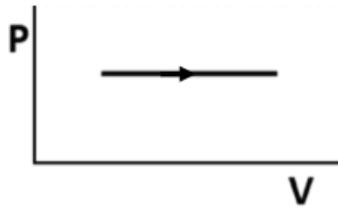

Fig.2.2: A boiler's impact to a P-V diagram
**Boiler:** A boiler is assumed to be a constant pressure heat addition, and will affect a P-V diagram as shown on Fig.2.2
**Condenser:** A constant pressure heat rejection, and will be the reverse of Fig.2.2.